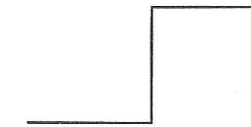

Figure 5.0/ Rajah 5.0
- (d) Draw the output signal for the following control system if the input signal is in **Figure 5.0:**